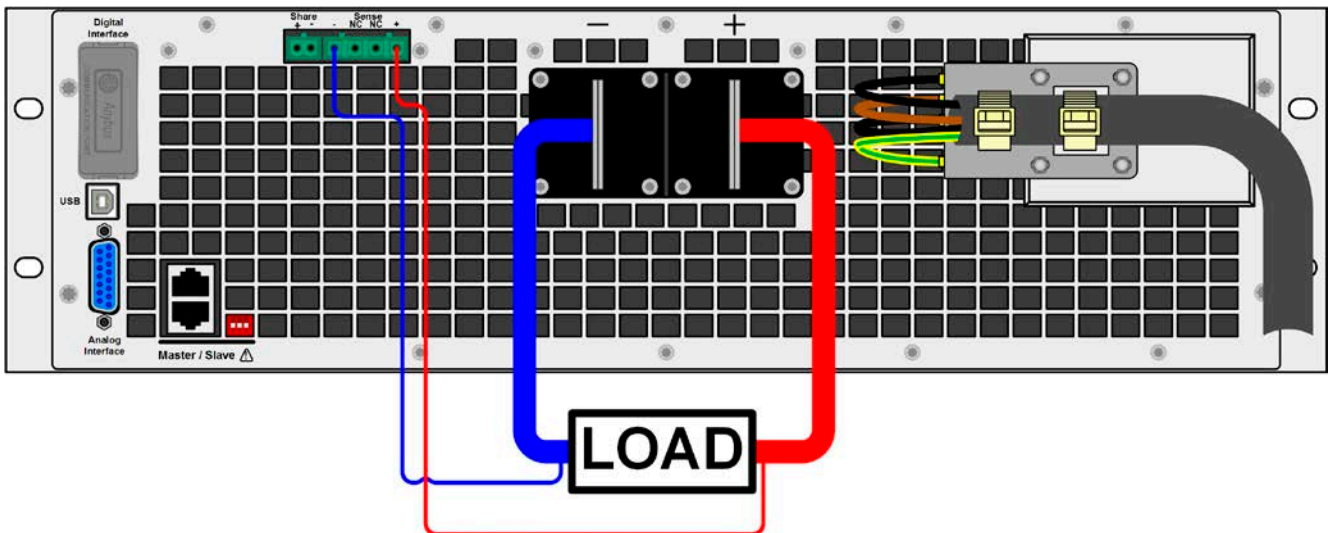

Figure 10 - Example for remote sensing wiring with load in source mode (sink mode will be wired identically)
- *Remote sensing is only effective during constant voltage operation (CV) and for other regulation modes the sense input should be disconnected, if possible, because connecting it generally increases the oscillation tendency*
- *The + sense cables must be connected to + on the load/source and - sense to - at the load/source, otherwise the sense input could be damaged. For an example see Figure 10 below.*